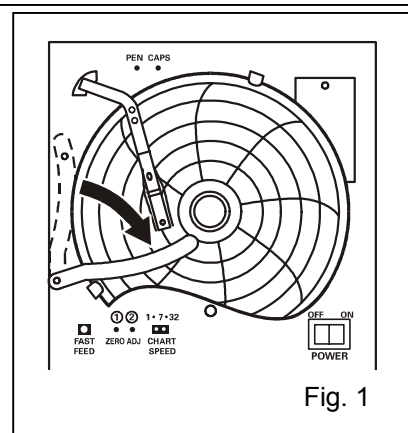

Fig. 1
1. Slightly raise the end of the ink pen lifter and remove from the lifter stopper. Then rotate clockwise as shown in Fig. 1.